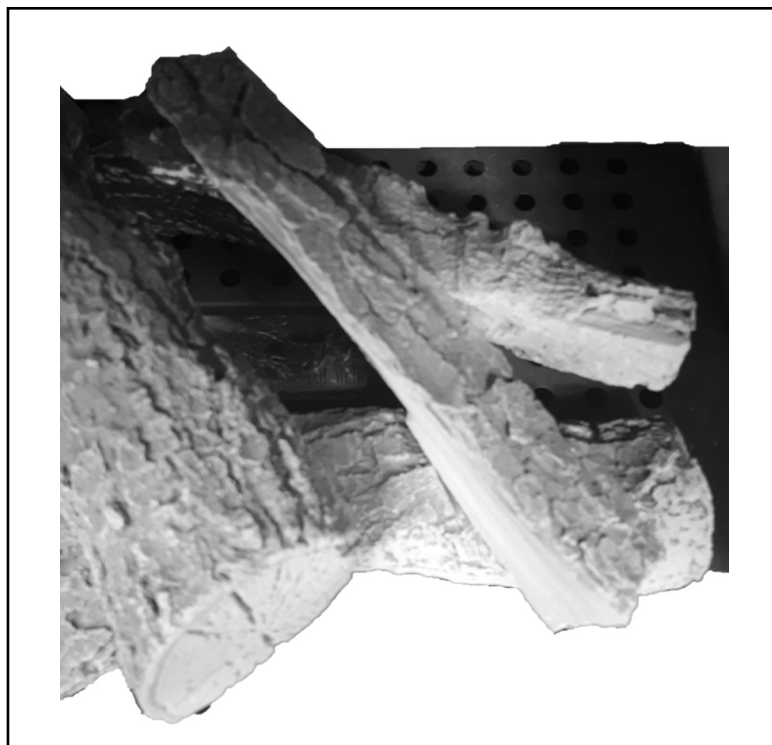

Fig. 10
10. Place Log '10' so that it is resting on Log '3' and to its rear on Log '2' as shown in fig.10.
Note: Ensure that there is a gap maintained from Log '9' as shown in fig.10.